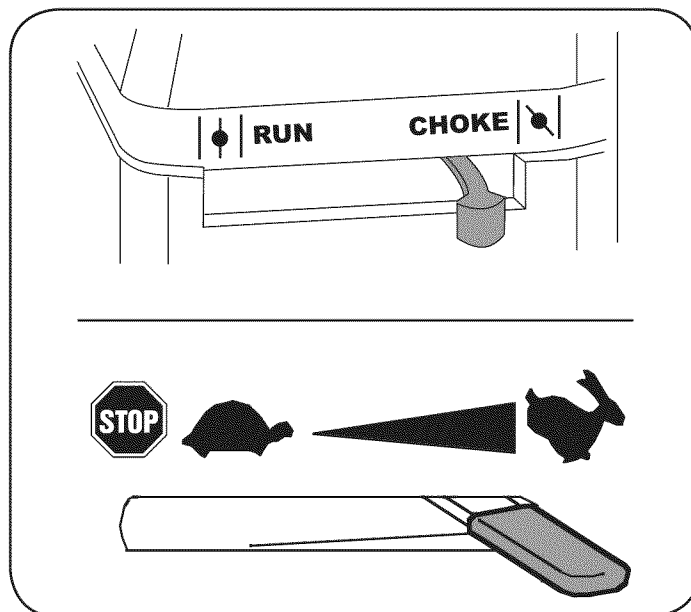

Figure 10
4. Move the choke lever on the engine to CHOKE  position. (A warm engine may not require choking.) See Figure 10.
5. Move throttle control to START/RUN (Rabbit)  position. See Figure 10.